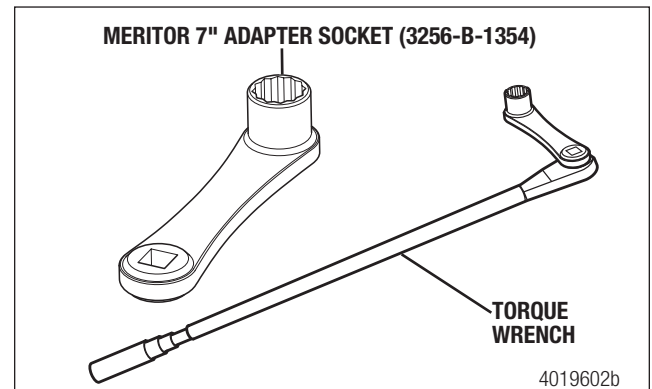
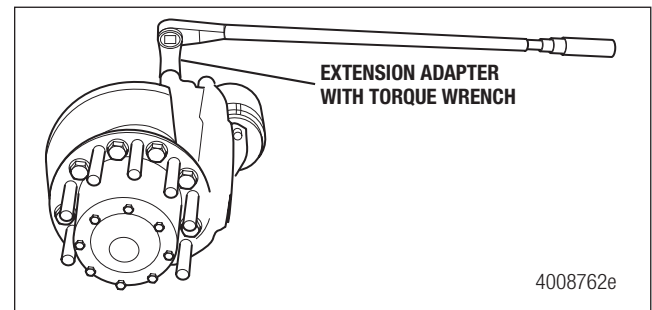

Figure 14
Figure 15
- Using an appropriate-size socket and torque wrench capable of 350-500 lb-ft, tighten the caliper fasteners to the OEM torque specification or the torque specified in the Torque Table on the last page. When it is not possible to reach the fastener directly with a torque wrench, a 7-inch extension adapter (30 mm) (3256-B-1354) may be used with the torque wrench to tighten M20-size fasteners. Figure 14 and Figure 15.